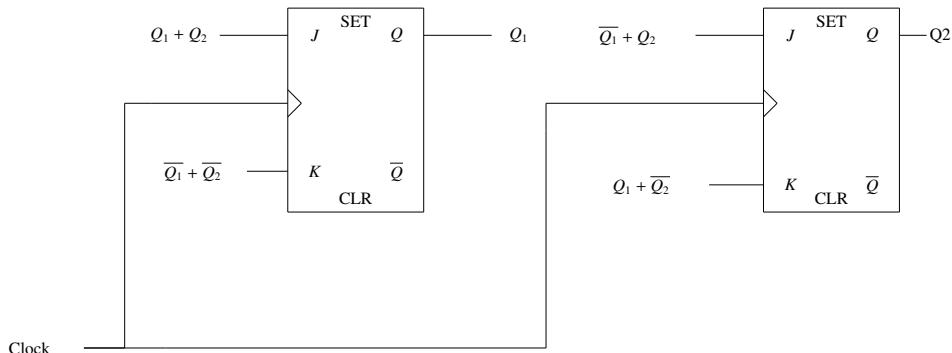

Fig. 5.20
20. A 2-bit synchronous counter using two J-K flip flops is shown in Fig. 5.20. The expression for the inputs to the J-K flip flops are also shown in the figure. The output sequence of the counter starting from $Q_1Q_2 = 00$ is (GATE IN 2018)